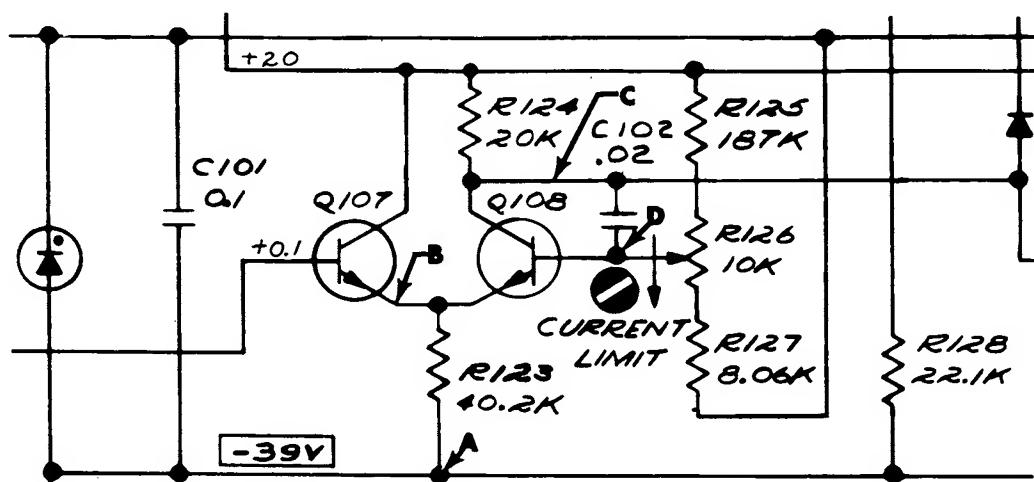

FIGURE 7. Test Points, Current Limit Circuit.
TABLE 5. Current Limit Circuit Voltages. These values were measured with the Model 153 to $\pm 15\%$. The Voltage Dials are set to 000 and the OUTPUT Switch to -. The range from -36 to -44 volts is the limits of the voltages across the zener diode D106. The points B,C, and D are indicated in Figure 7.
d. Voltages within the current limit amplifier vary considerably, depending upon the voltage across zener diode D106. Nominally, the voltage is -39 volts. Table 5 gives the correct values for points in Figure 7 for voltages within the limits of the zener if the instrument is working properly.